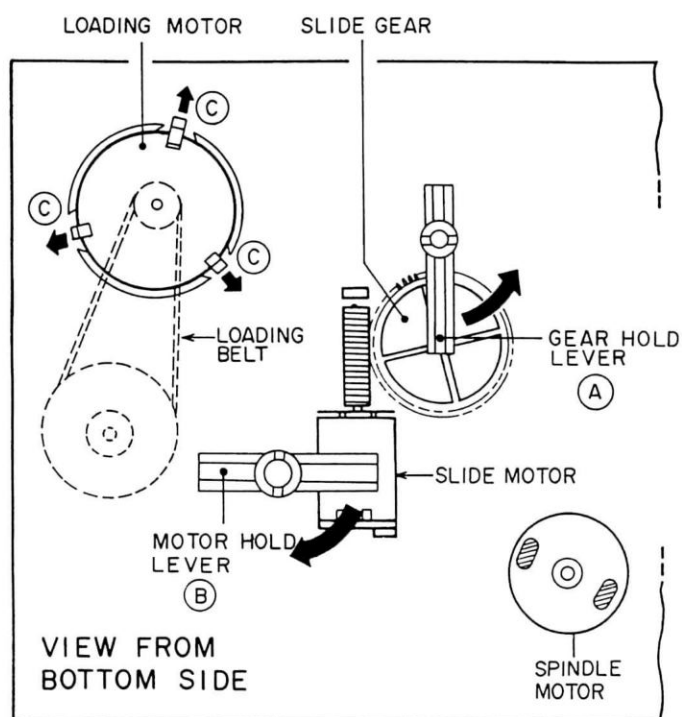
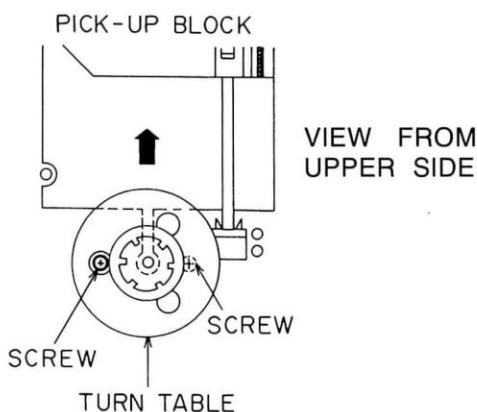

Fig. 4-4
Fig. 4.5
4-4. REPLACEMENT OF THE SPINDLE MOTOR (Refer to Fig. 4-4 and Fig. 4-5)
- 1) Turn the GEAR HOLD LEVER ⑧ counter-clockwise, then pull out the SLIDE GEAR (Fig. 4-4).
- 2) Move the PICK-UP BLOCK to opposite direction from the SPINDLE MOTOR (← direction). (Fig. 4-5)
- 3) Remove two fixation screws of the SPINDLE MOTOR through the hole on the TURNTABLE as shown Fig. 4-5.
4-5. REPLACEMENT OF THE LOADING MOTOR (Refer to Fig. 4-5)
4-6. REPLACEMENT OF THE SLIDE MOTOR (Refer to Fig. 4-4)